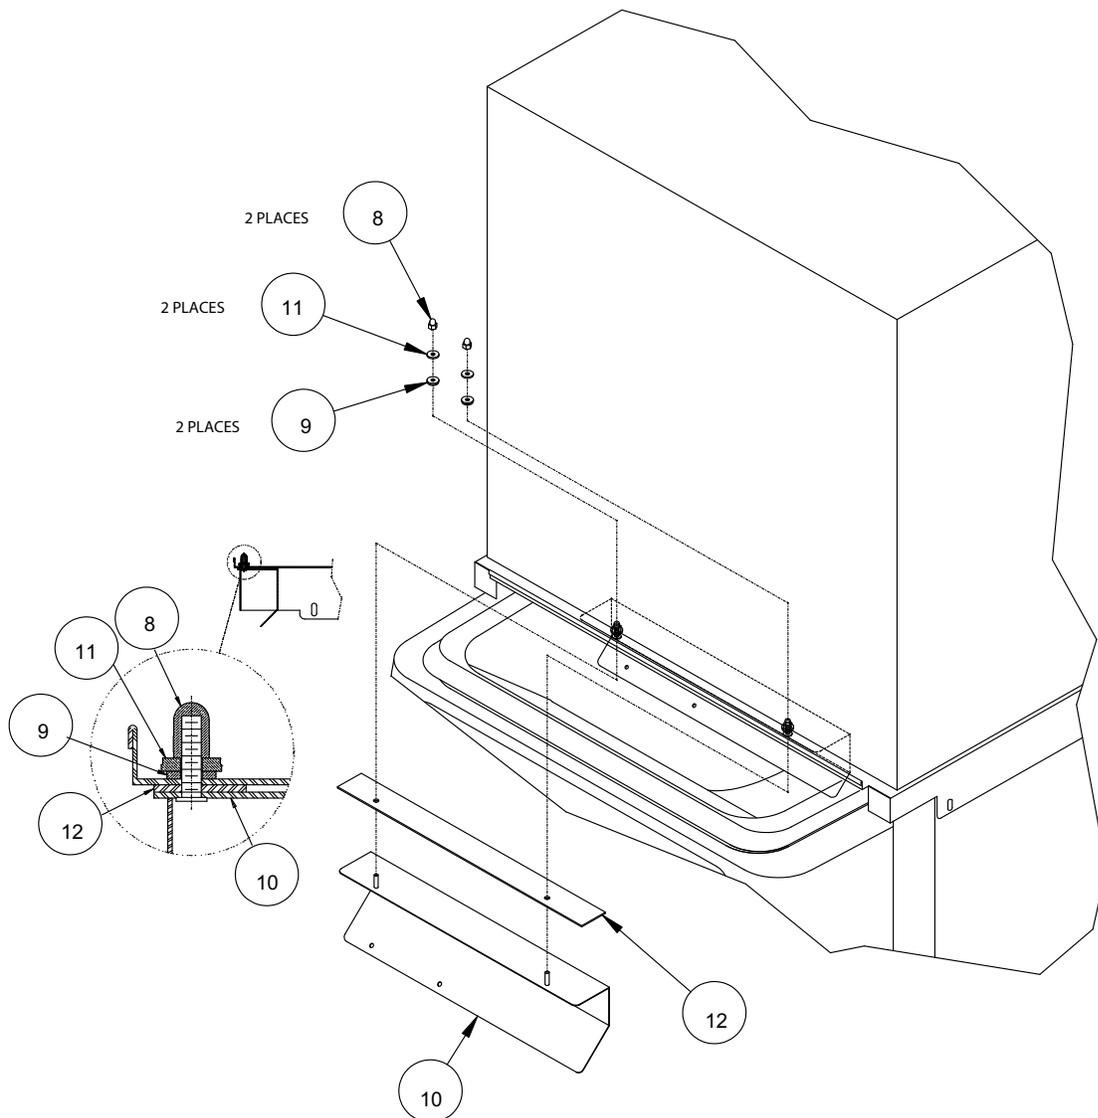

Figure 1. Parts
2. Place insulation strip (item 12) over studs on the baffle and insert baffle assembly into the adapter lid.
3. Place (2) sealing washers (item 9) over studs and (2) flat washers (item 11), then fasten in place with (2) plastic acorn nuts (item 8).
5. Using the slotted holes in the lid as a template, drill four (4) 0.140" diameter (9/64") holes at the bottom of the slots (see Detail A). **Use extreme care not to drill into the hopper.** Fasten the lid to the dispenser with four (4) #8 sheet metal screws, two on each side.
- B. Set the ice maker onto the lid and position it as shown in Fig 1.